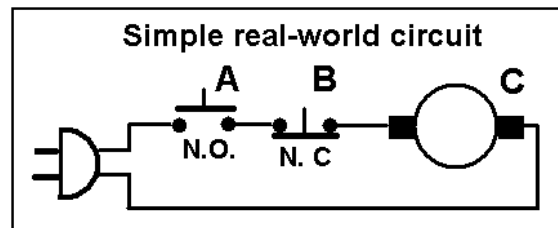
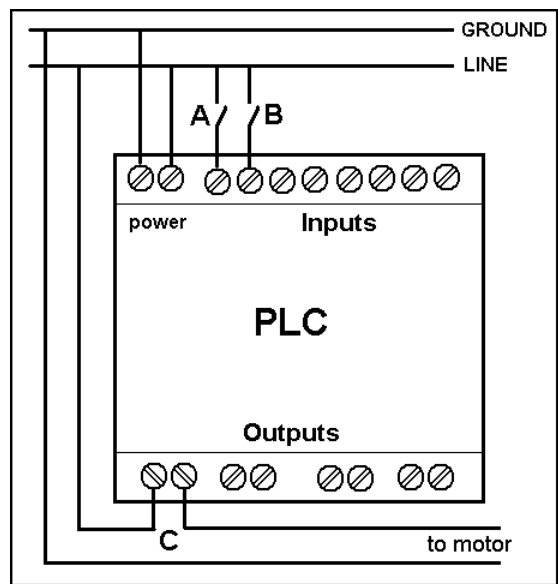

Fig. 1.5 The physical control circuit
Fig. 1.6 Real PLC connections
A real-world circuit is shown in Fig. 1.5, consisting on a series connection of a *normally open* push-button **A** and a *normally closed* push-button **B** to control a small motor **C**.. To use a PLC to control the motor, the physical connections would be as shown in Fig. 1.6 In practice you would not use a PLC for such a simple circuit; here it is used only as an illustration.
Notice that the two **A** and **B** push-buttons are not connected in series as shown in Fig. 1.5, but rather are placed between the hot power line and a PLC input terminal. The **A** and **B** *inputs* will be high or low according to the state of each push-button. Initially **A** terminal is *low* and **B** terminal is *high*. The *output* PLC terminals act in pairs as contacts of an internal relay.
- 6: In the circuit shown in Fig. 1.5, if the position of the switches **A** and **B** were to be interchanged (i.e. switch **A** placed to the right of switch **B**) could the PLC detect any difference? Explain.
- 8: In the diagram of Fig. 1.6 the external hardware was connected to the *input* and *output* terminals starting at the left end. Could we have selected different *input* or *output* terminals? Give reasons for your answer.
- 9: Fig. 1.6 suggests the *output* terminals come in pairs, while there is a single screw terminal for each *input*. Why do you think the PLC does things this way?
- 10: If you were to short a pair of *output* terminals of the PLC in Fig. 1.6, would this damage the unit? Explain.